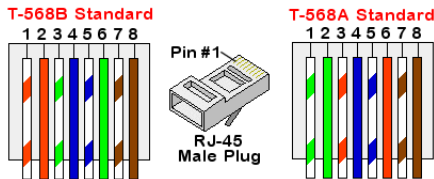

Figure 31: Standard cable wiring
- c. Insert the eight wires into an RJ45 connector, as described in *Figure 31*.
7. For the switch/router side, use a pre-terminated cable or use a crimper to prepare an RJ45 communication connector: Insert the eight wires into the RJ45 connector in the same order as above (*Figure 31*).